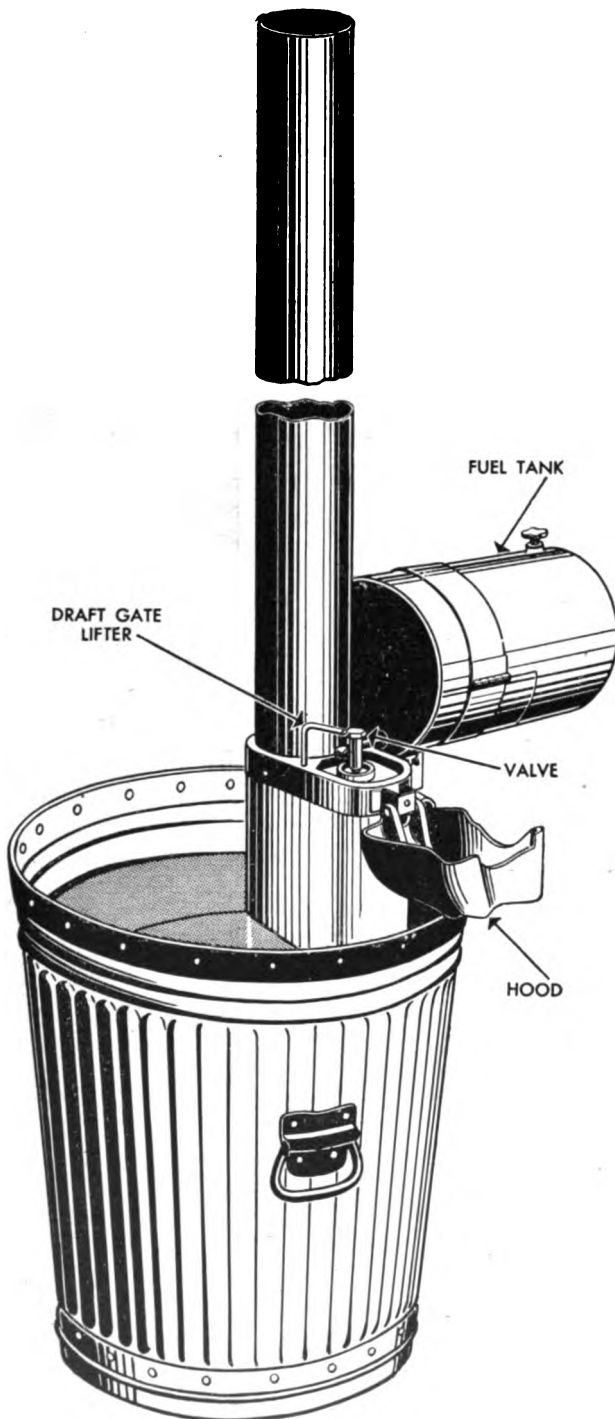

Figure 53. Heater, immersion type (65-J-1911-70).
a. The heater, immersion type, for cans, corrugated, complete with 24-gallon can and cover (stock No. 65-J-1911-70) is a new type of water heater, employing the principle of the downdraft burner. (Heater only, stock No. 65-J-1911-50.) (See figs. 53 and 54.) (See par. 19a.) By means of a large baffle plate, the heat is made to circulate over the entire bottom of the can.